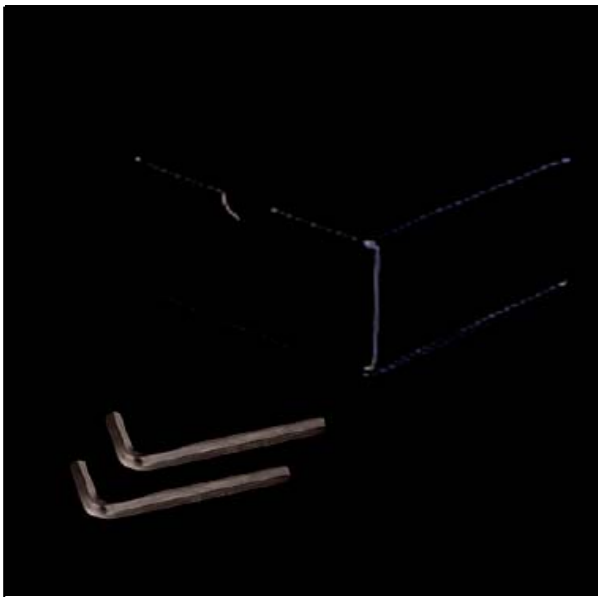

Figure 12
12. Place the center cap wrench and wheel accent wrench included in the box in the glove box. See Figure 12.